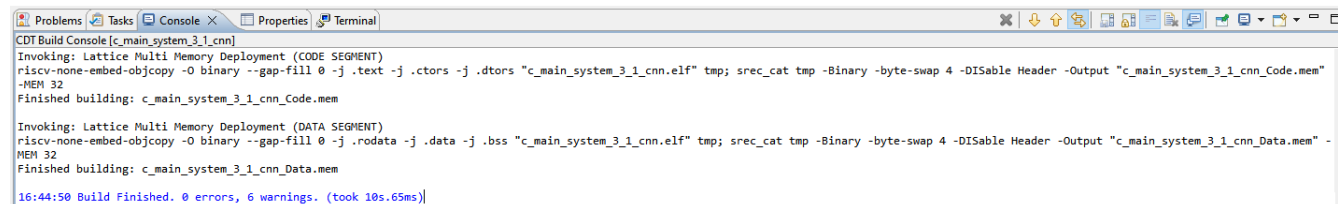

Figure C.25. Completing Process
15. Wait for the process to complete to 100%. After completion, the message shown in Figure C.25 appears on the console.